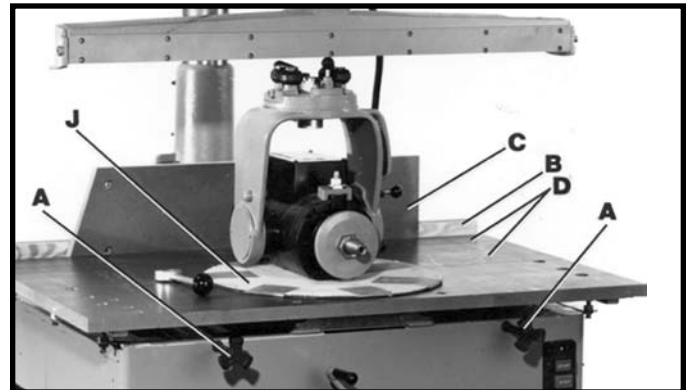
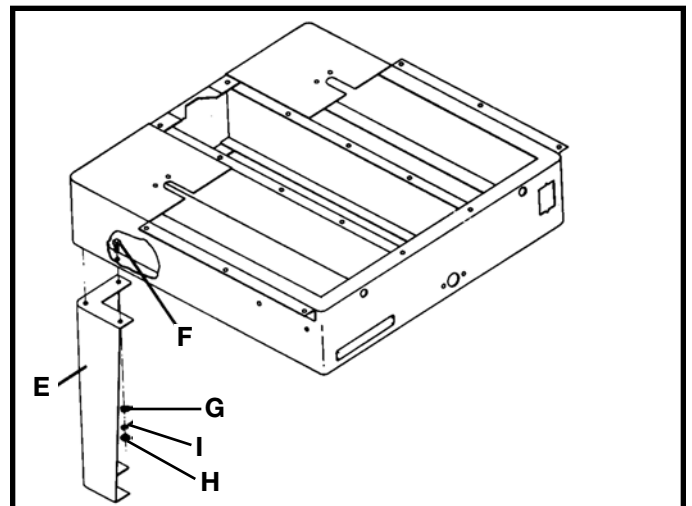

Fig. 2
Fig. 3
IMPORTANT: To gain access to the four bolts that fasten the saw to the wooden shipping skid, loosen two table lock knobs (A) Fig. 2. Remove fence (B), angled front table board (C) and at least two table boards (D). Do not remove the packing material around the motor at this time.
Mechanically lift the machine using a forklift and lifting straps, and support the machine. Attach the four steel legs (E) Fig. 3, to each corner of the base using twelve 3/8-16x1" hex head screws (F), 3/8" flat washers (G), and 3/8" lockwashers (I) and 3/8-16 hex nuts (H). Remove the packing material from around the motor. The motor will be positioned on the table as shown in Fig. 2.